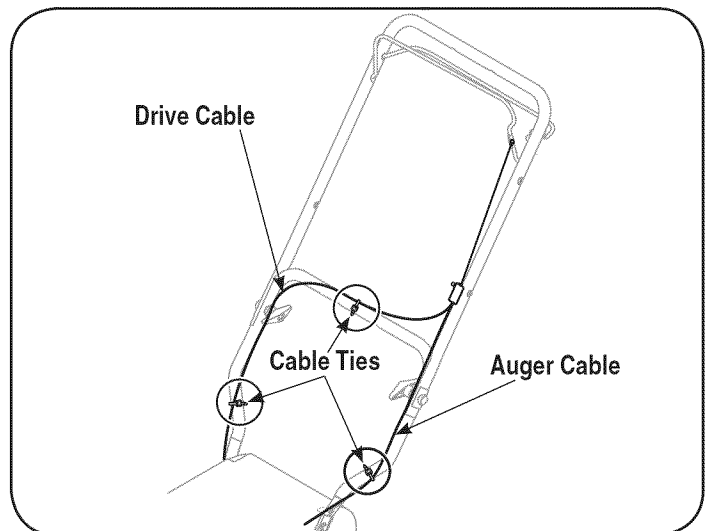

Figure 3
2. Slide one of the loosely fitted cable ties from the right side of the lower handle up to the cross member of the lower handle. Leave the second cable tie in place on the right side of the lower handle. See Fig. 3 for reference.
NOTE: The auger cable routes down the left lower handle and the drive cable is routed across the top of the lower handle and down the right side of the lower handle. See Fig. 3.
6. Three cable ties have been used to loosely tie the control cables to the lower handle, including the cable tie you relocated in step 2. Position cable ties now, as in Fig. 3, and tighten to secure cables to the lower handle. Trim off excess material of cable ties.